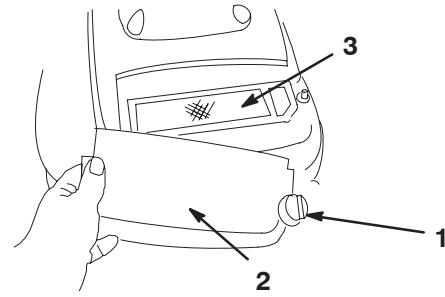

Figure 37
3. Remove the screw that secures the air cleaner cover (Fig. 37).
4. Remove the cover and clean it thoroughly (Fig. 37).
6. Remove the foam pre-cleaner and wash it with a mild detergent and water, then blot it dry (Fig. 37).